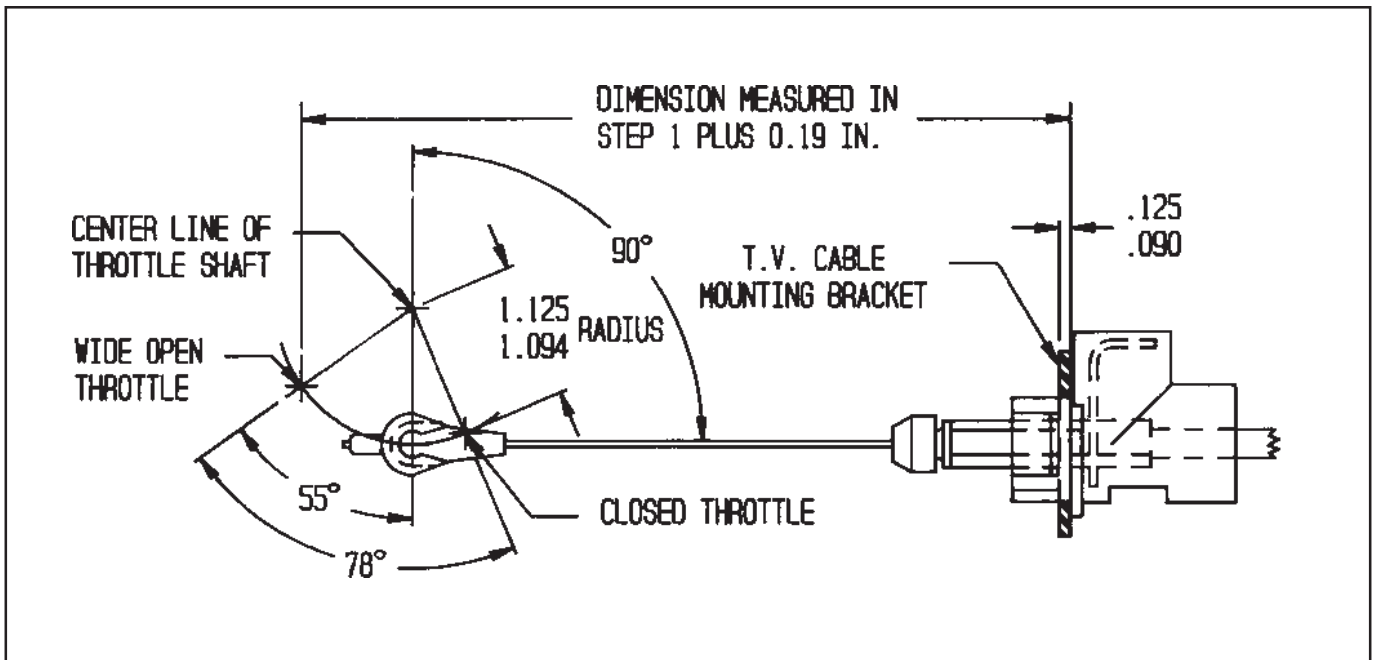

Figure 16
STEP 2. Add 3/16" (0.19 in.) to the measurement obtained in Step 1, this is the perpendicular measurement from the REAR FACE of the T.V. cable mounting bracket to the WIDE OPEN THROTTLE position of the T.V. cable connector pin on the throttle bellcrank (See Fig. 16).
STEP 3. The T.V. cable bellcrank must be perpendicular (90 degrees) to the T.V. cable when the throttle is 25 percent (1/4) open (See Fig. 16), this geometric relationship is critical to insure that the T.V. mechanism moves in the correct proportion to the throttle opening. The mounting location for the T.V. cable connector pin will have to be established on the throttle bellcrank at a radius of 1.094 / 1.125 in. There may be a suitable existing hole at the correct radius on the throttle bellcrank, otherwise you will have to fabricate an attachment to the bellcrank that will properly locate the connector pin.